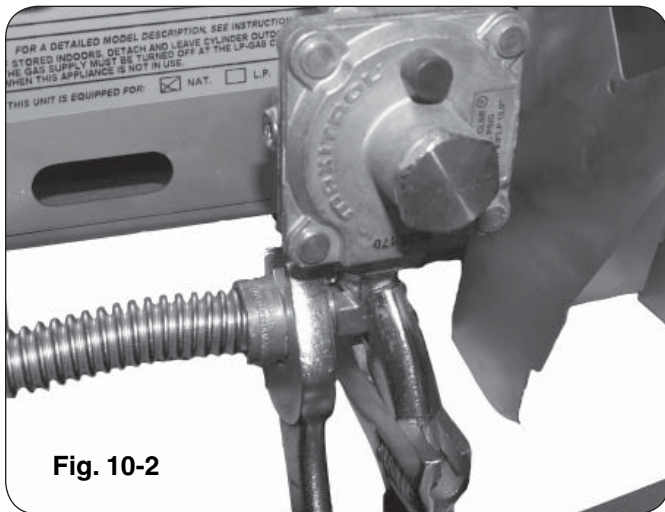

Fig. 10-2
- f. Connect the flex connector to the flared fitting of the regulator on the valve manifold. Support the regulator fitting with a wrench to avoid applying excessive torque to the regulator assembly while tightening this connection securely (Fig. 10-2). **DO NOT** use pipe compound on flare fittings.